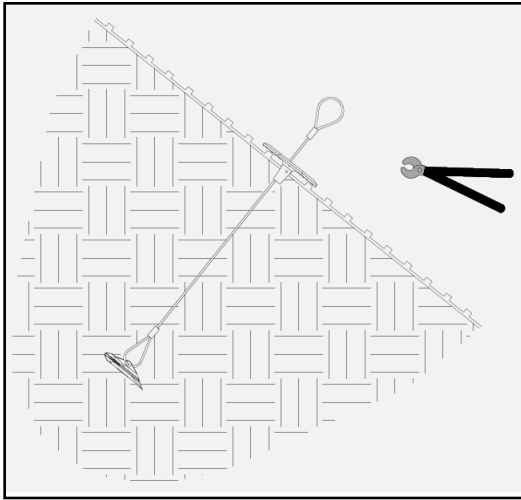
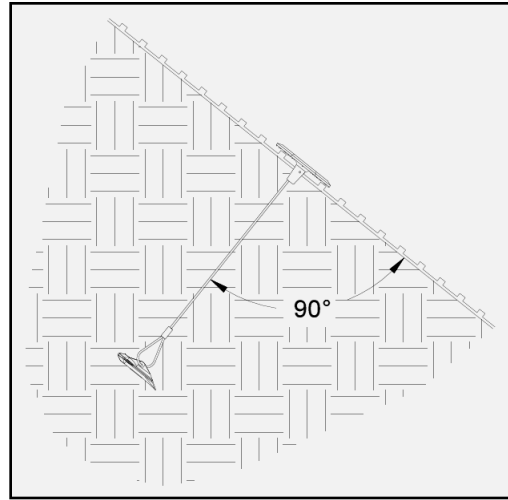

Figure 11: Trim Extra Cable Flush to Plate
Figure 12: Complete Type B1 Anchor Installation
8. Once anchors have been load-locked, cut off the excess looped anchor tendon flush to the plate at the channel surface using wire cutters. (Figure 11 and Figure 12)